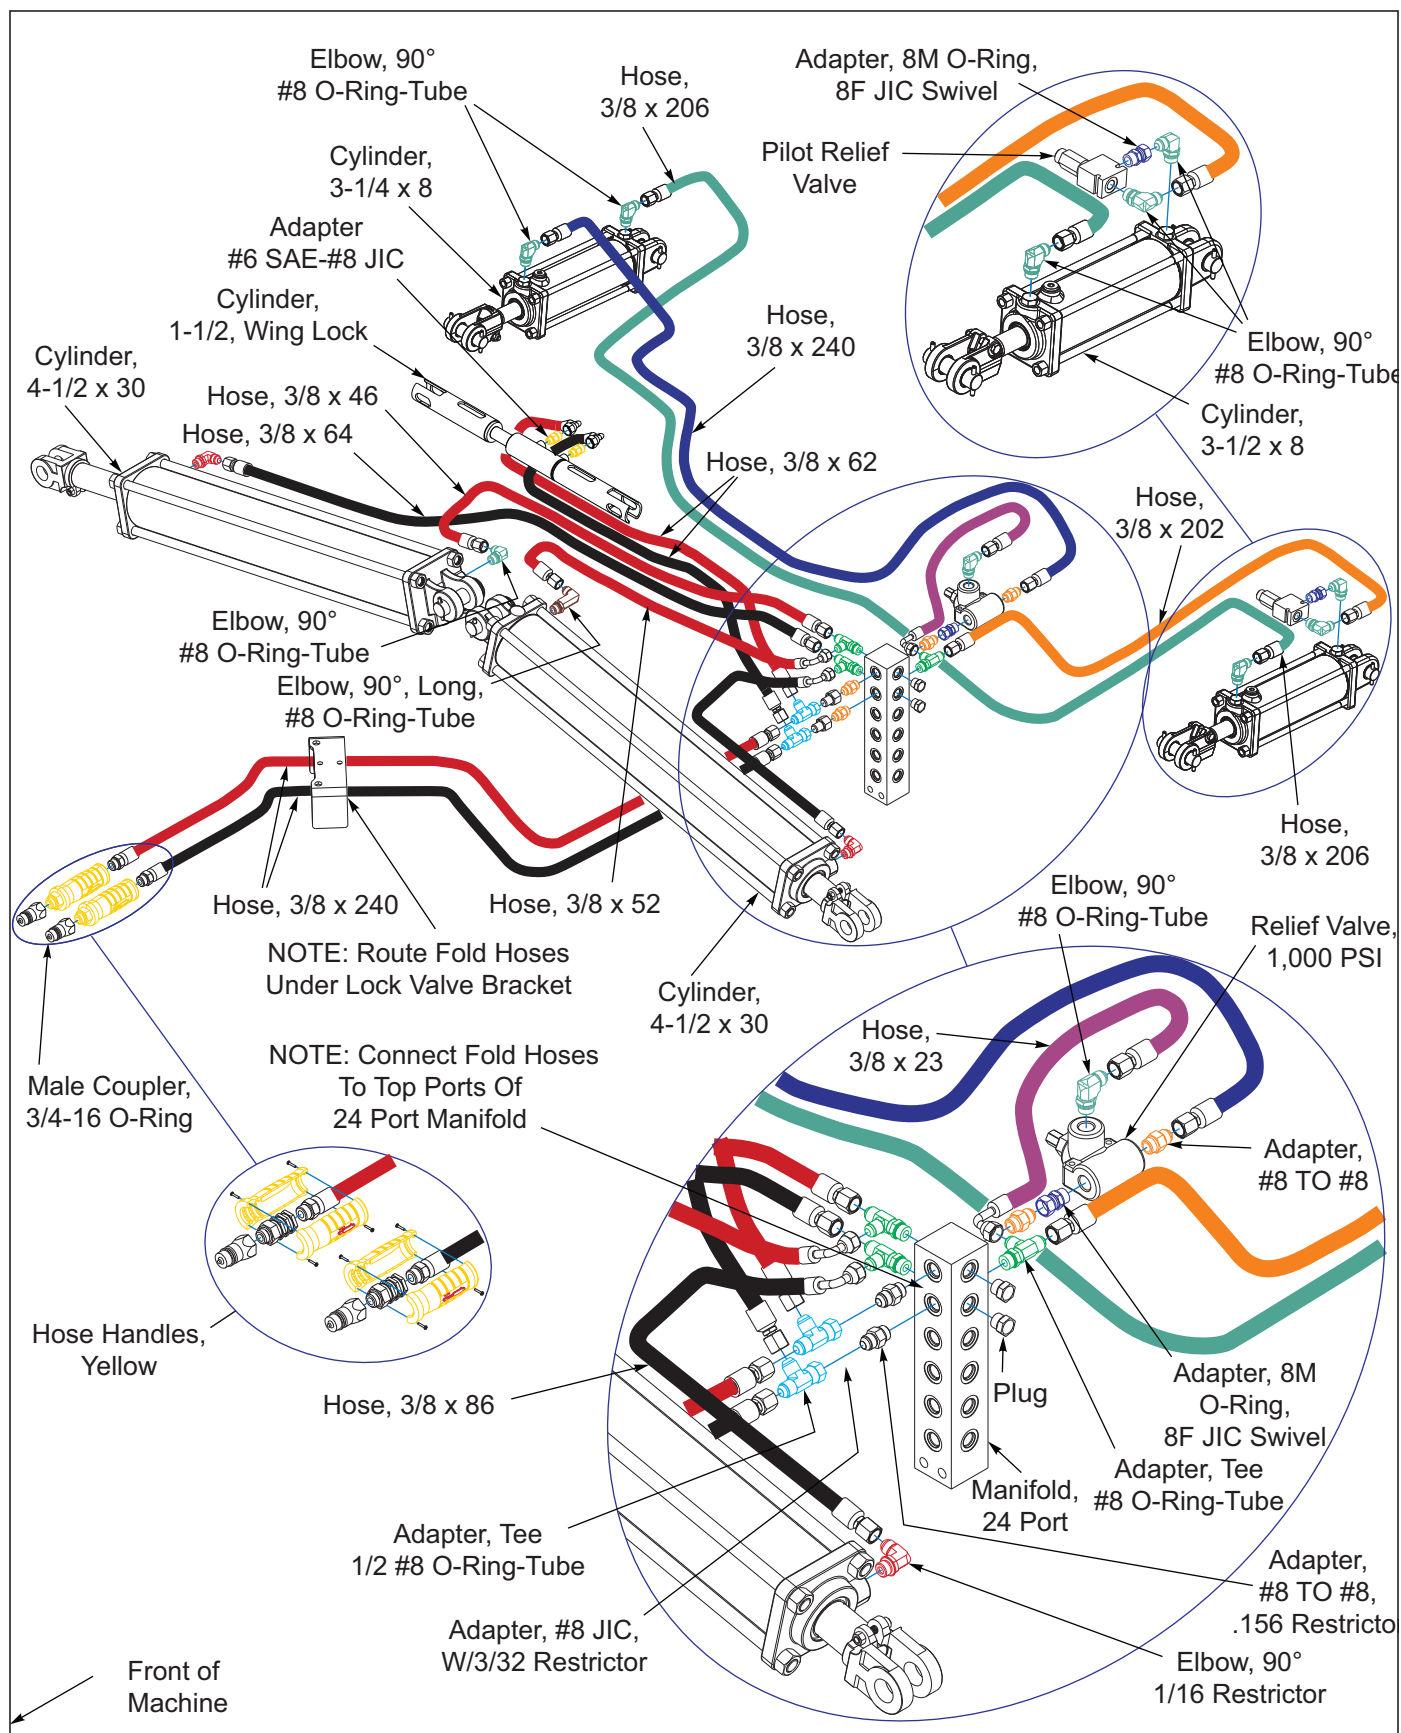
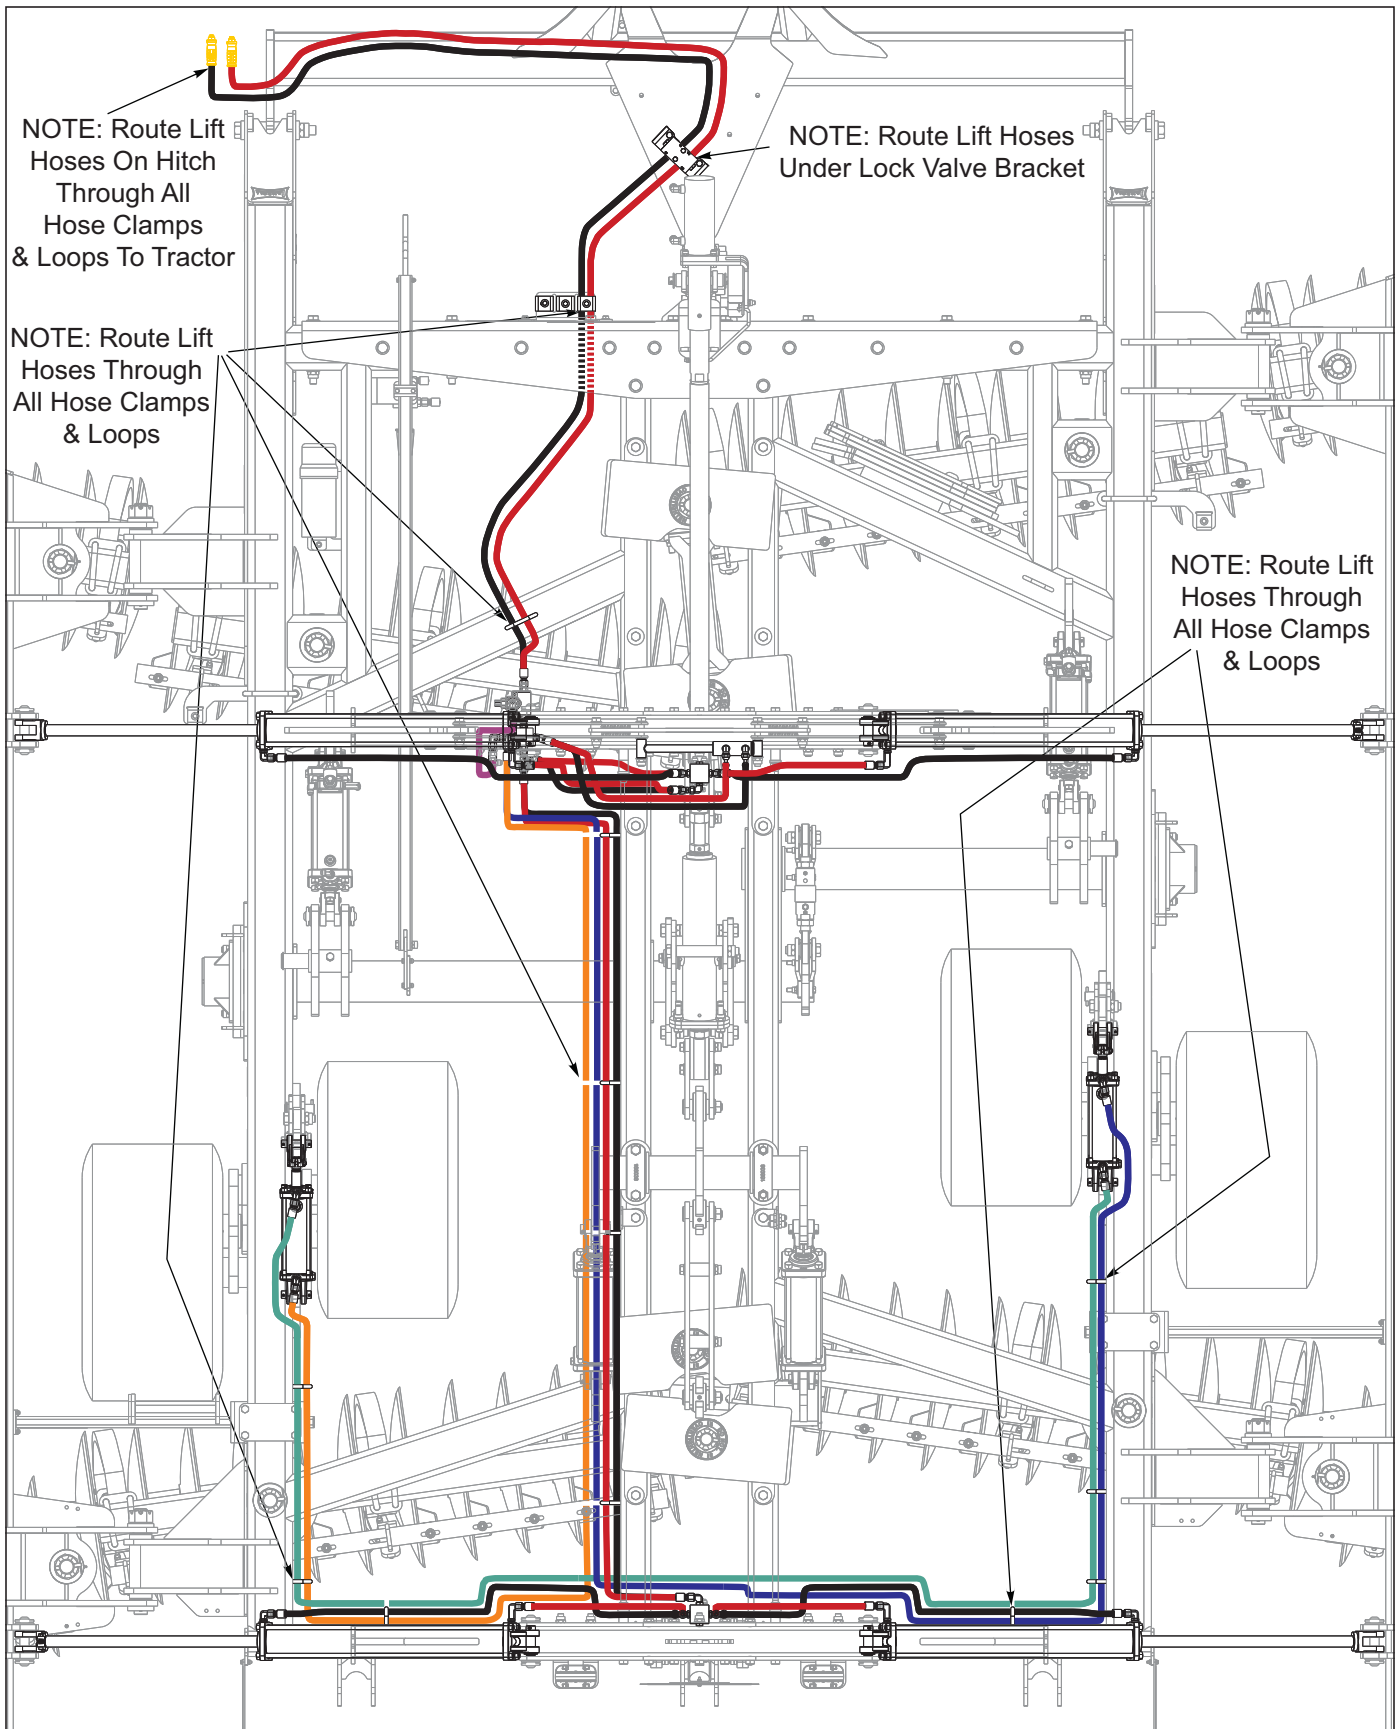

Figure 3-20: Fold Hydraulic Installation 7531-23'
Figure 3-25: Fold Hydraulic Placement 7531-32'-35'
Rod ends of fold cylinders need to be left unassembled and propped up until fold hydraulic system is fully charged with oil to prevent machine damage when folding the first time See Figure 3-20.
Refer to Figures 3-20 - 3-25 for fold hydraulic diagrams for 7531-23'/26'/29' and 7531-32'/35' models.
1. Install the 24 and 8 port hydraulic manifolds at the center and rear of the center frame to the mounts welded to the frames **See Figure 3-20 - 3-34** using 1/2-13 x 3-1/2 or 1/2 x 4 bolts and 1/2 lock nuts. On the front manifold, the top two ports are for the fold system, the middle two are for the lift system, and the bottom two are for the adjustable gangs.
11. Install fold cylinder hoses, couplers and yellow hose handles **See Figure 3-20 through See Figure 3-25**.